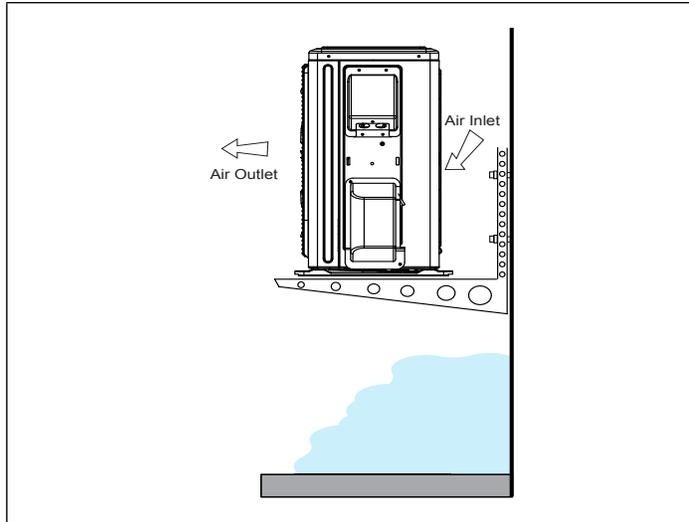

Figure 14. Outdoor Unit on Brackets above Snow Line
- The unit base should be elevated above the depth of average snows as illustrated in “Figure 14. Outdoor Unit on Brackets above Snow Line”
- When prevailing wind is into the discharge side, then position the wind barrier a minimum 79 inches (2007 mm) from the front of the unit as illustrated in Figure 14. Wind Barrier.”